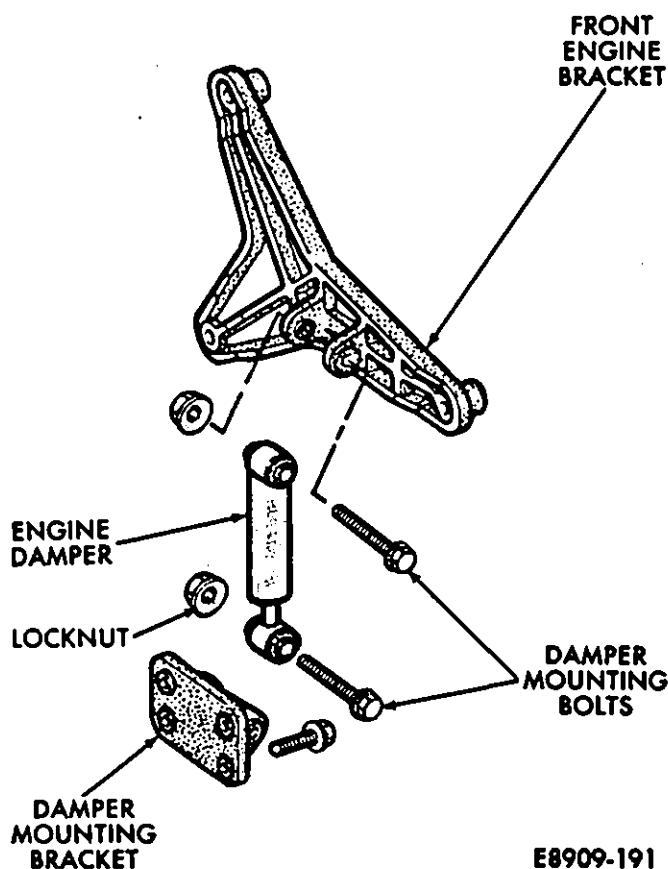

Fig. 9—Engine Damper
- (1) Remove the bolt and locknut from the damper mounting bracket (Fig. 9).
- (2) Remove the bolt and nut from the front engine bracket (Fig. 9).
- (3) Discard the engine damper, if damaged.